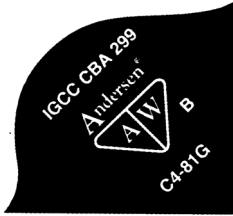

Fig 7. Bronze (B) or grey (G) indicated at side of logo.
- 2001 to 2004* In the first quarter of 2001, the text was moved to an “L” shape to emphasize the Andersen® brand name and triangle (figure 7). Use of a laser provided crisper images. NFRC codes were added to identify product line. The HP version (for example, .7) was moved from behind the date code (CIG-3 2-02.7) to behind the plan code (CIG-3.7 2-02).
From 1971 to 1985 Cardinal supplied Andersen with bronze and gray tinted glass. Tinted glass is indicated with a "B" or "G" next to the AW logo (figure 7). Bronze and gray glass were discontinued in 1985; replacement glass is available for warranty only.